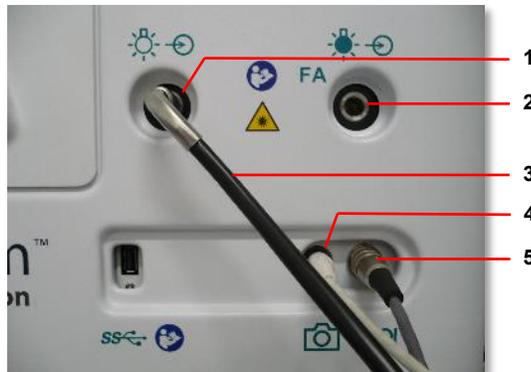

Figure 6. Handpiece Cable Connections
The handpiece harness contains three (3) cables for illumination, camera, and focus control. Figure 6 shows the cables and connection ports.